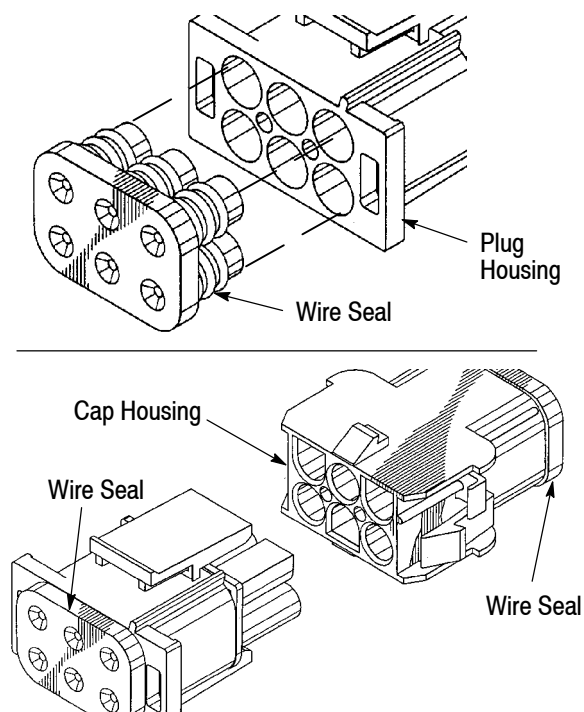

Figure 3
3. Insert wire seals into contact cavities at the back side (wire end) of the cap and plug housings as shown in Figure 3.